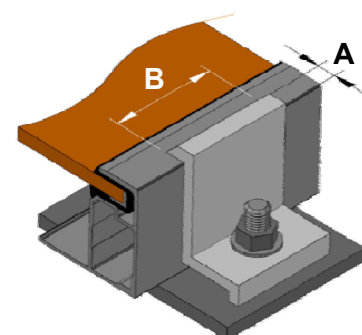

Fig. 4: Clamp dimension definition
- The mounting clamp and fixing plate must meet the dimensions requirements (Fig. 4).